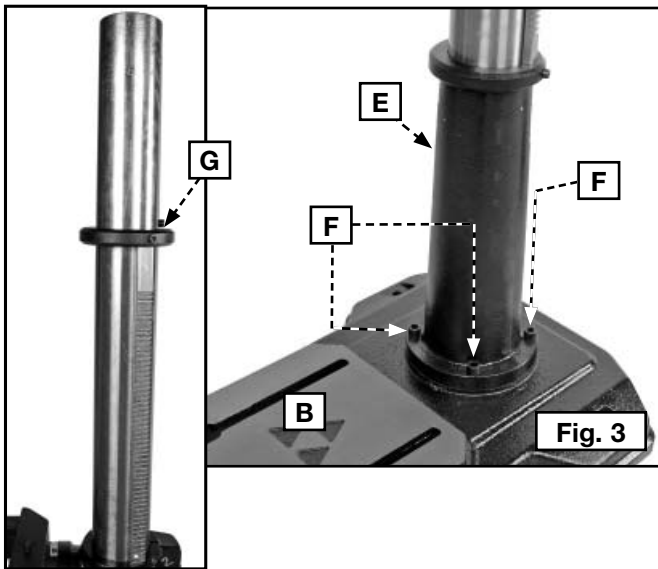

Fig. 3
1. Attach the column (E) Fig. 3 to the base (B) using the four M10 x 40 mm socket head cap screws (F), three of which are shown.
NOTE: Make sure screw (G) (Fig. 3 inset) is oriented to the back of the drill press.